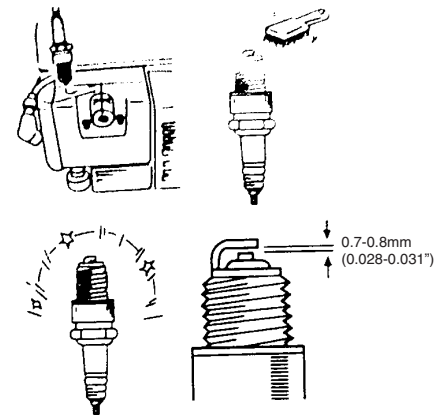

Figure 7
1. Remove spark plug cap and then spark plug using the supplied key. See Fig.7.